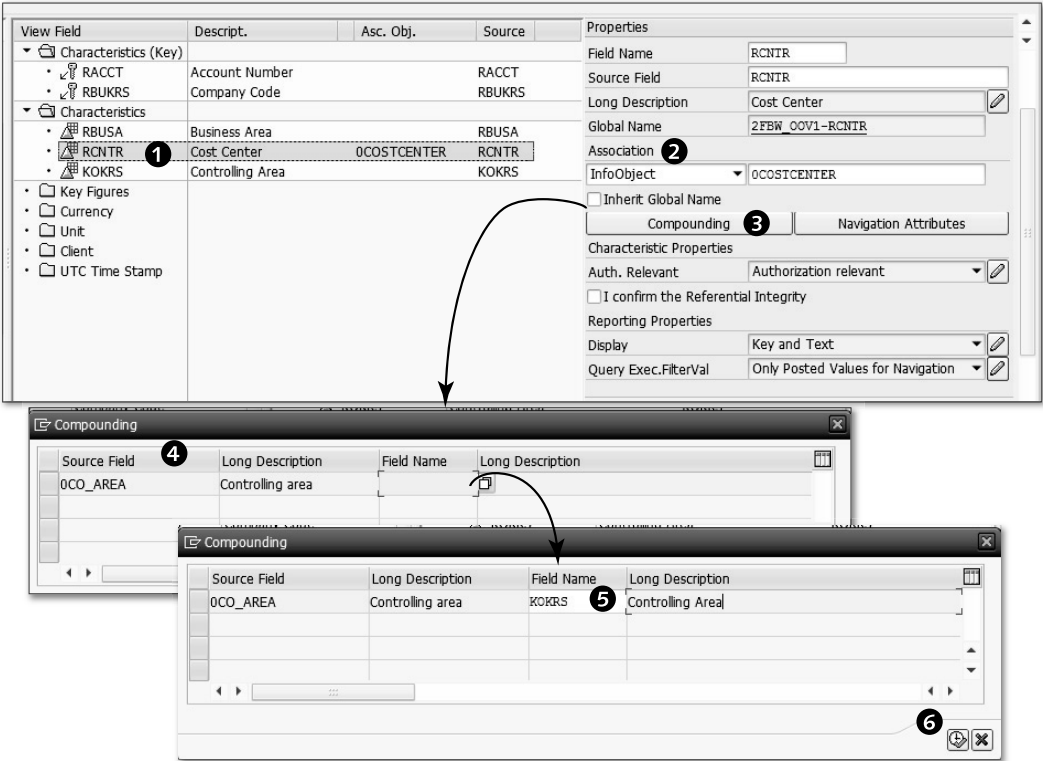

Figure 6.83 Setting Properties for a Field
As shown in Figure 6.83, you need to set the following fields when designing an OOV:
Now let's see how to associate a field with an InfoObject and how to set a few properties. Select the RCNTR field from the VIEW FIELD section, and open the PROPERTIES section (1 of Figure 6.83). In the ASSOCIATION dropdown, select INFO-OBJECT (2), enter "OCOSTCENTER", and press the **[Enter]** key. This associates Info-Object OCOSTCENTER to the RCNTR field, which activates the COMPOUNDING and NAVIGATION ATTRIBUTES buttons (3).